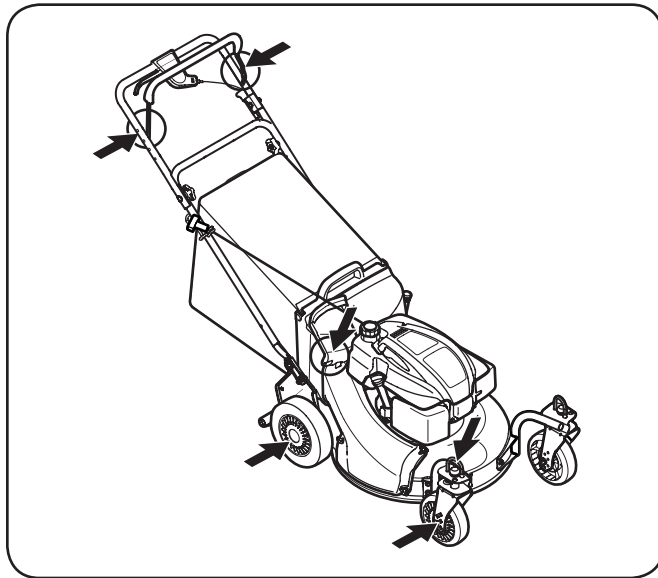

Figure 6-1
1. Lubricate pivot points on the blade control at least once a season with light oil. The blade control must operate freely in both directions. See Fig. 6-1.
2. Lubricate the wheels and casters at least once a season with light oil (or motor oil). If wheels are removed for any reason, lubricate the axle bolt and inner surface of the wheel with light oil. See Fig. 6-1.
3. Lubricate the torsion spring and pivot point on each end of the grass catcher adapter door at least once a season with light oil to prevent rust. See Fig. 6-1.